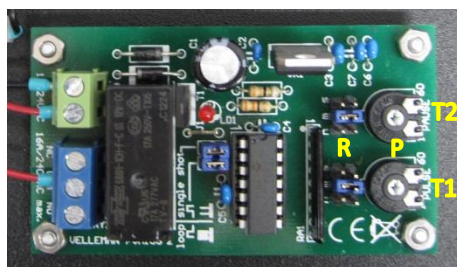

Figure 23: Timer control board
- Adjust the pulse (P) and range (R) settings on the timer board which is located at the bottom of the plate (see Figure 23). The switch times (T1 and T2) for the two valves are set by range jumpers (R) that select hours (h) , minutes (m) or seconds(s)) and the pulse length dials (P) which select a time between 1 and 60.